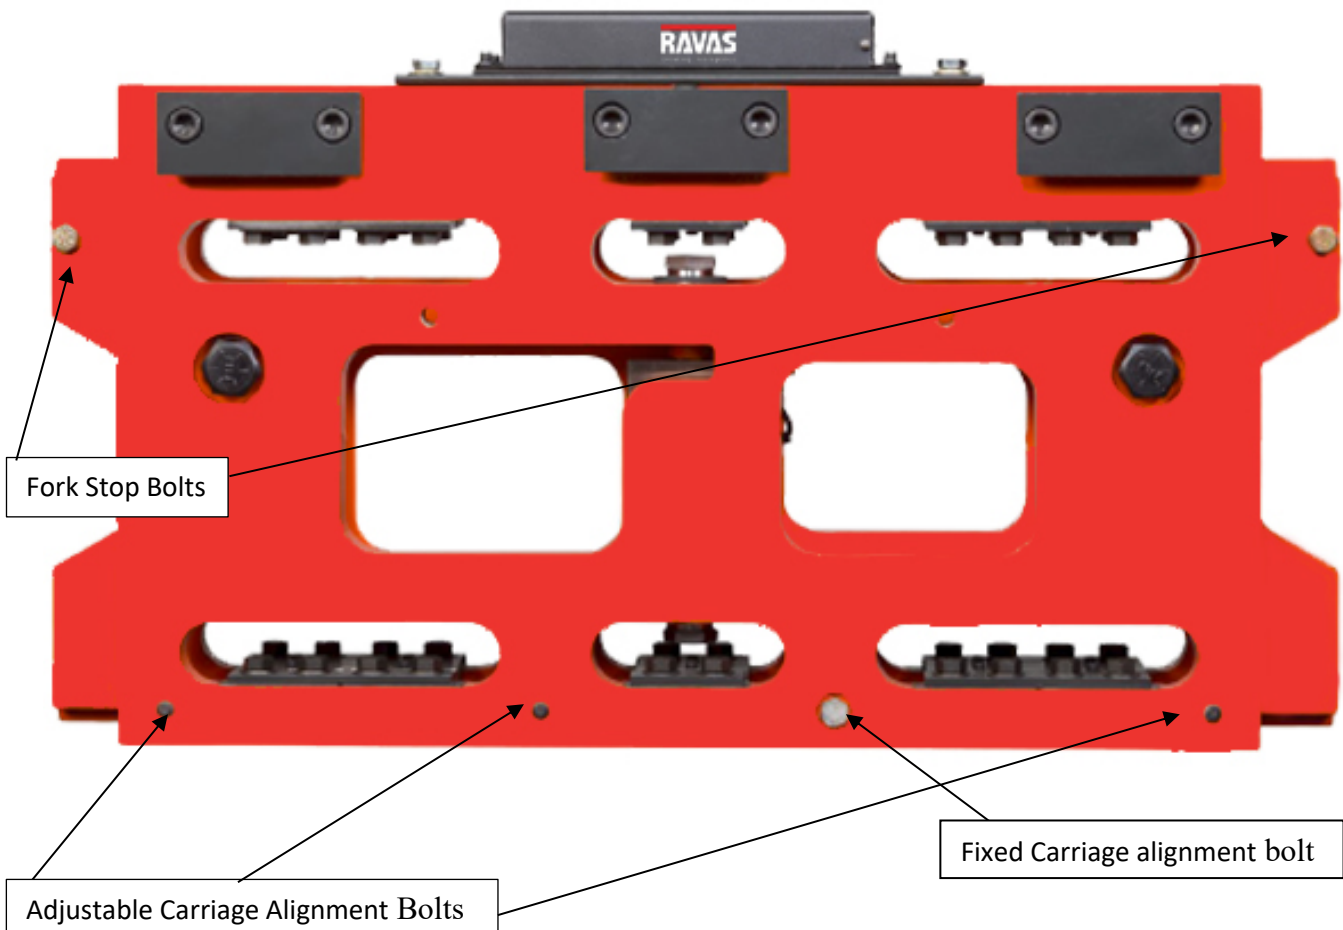

Figure 1: Safety Plate and Carriage Alignment Bolts
- Remove safety plates (Fig. 1 & 2) from bottom of scale carriage assembly. Place the scale in a vertical position on the edge of the shipping pallet, with the rear side (side with cleats) facing outward. Examine the back plate of the scale base at this time to locate the carriage alignment bolts (Fig. 1). The head of the bolt that protrudes from the rear of the scale is known as the fixed carriage alignment bolt. There are also several adjustable carriage alignment bolts protruding from the rear of the scale. These adjustable bolts have a **lock nut** located between the two plates. These bolts will be adjusted in step #4.
- To assure firm and level mounting, the head of the fixed carriage alignment bolt should be resting on the carriage of the lift truck. To attain a secure mounting, first loosen the lock nuts on the three (3) adjustable carriage alignment bolts, then back these alignment bolts off until only the fixed carriage alignment bolt is resting against the lift truck carriage. Next, adjust the adjustable carriage alignment bolts so that they are just touching the carriage of the lift truck, and then tighten the lock nuts (Ref. Figure 1).